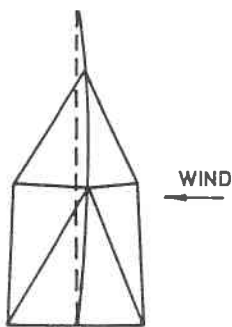
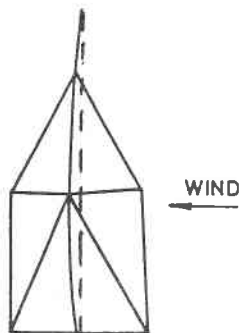

Fig. 13 - Mast
Fig. 14 - Spreaders
- 4 Check the rig whilst sailing. The mast should remain straight. Check the mast for sideways bend. If the top of the mast leans to leeward, loosen the lower shrouds (see Fig. 13). If the spreaders lean to leeward, tighten the lower shrouds (see Fig. 14).